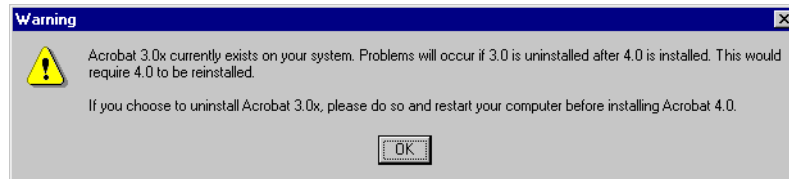

Figure 98. Acrobat 4.0 installation warning
- b. If you receive a warning during the installation of Acrobat 4.0 similar to Figure 98, click **OK**. Then, exit the installation, remove the old release of Acrobat, and restart the client OneWorld installation.